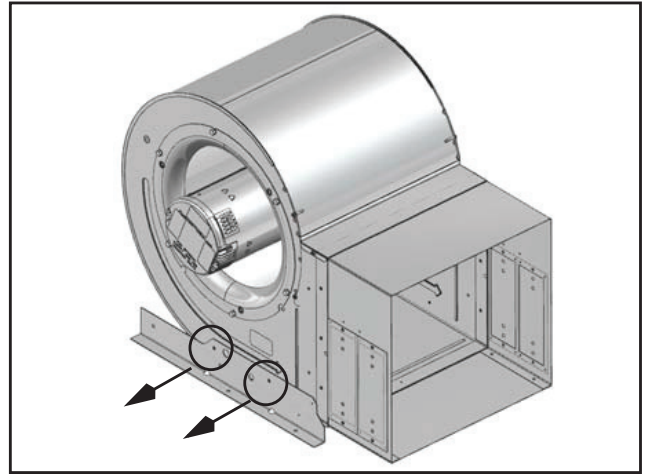

Fig. 31 - Screws Holding Blower Bracket
5. Remove and retain bracket by removing (2) screws. See Fig. 31.